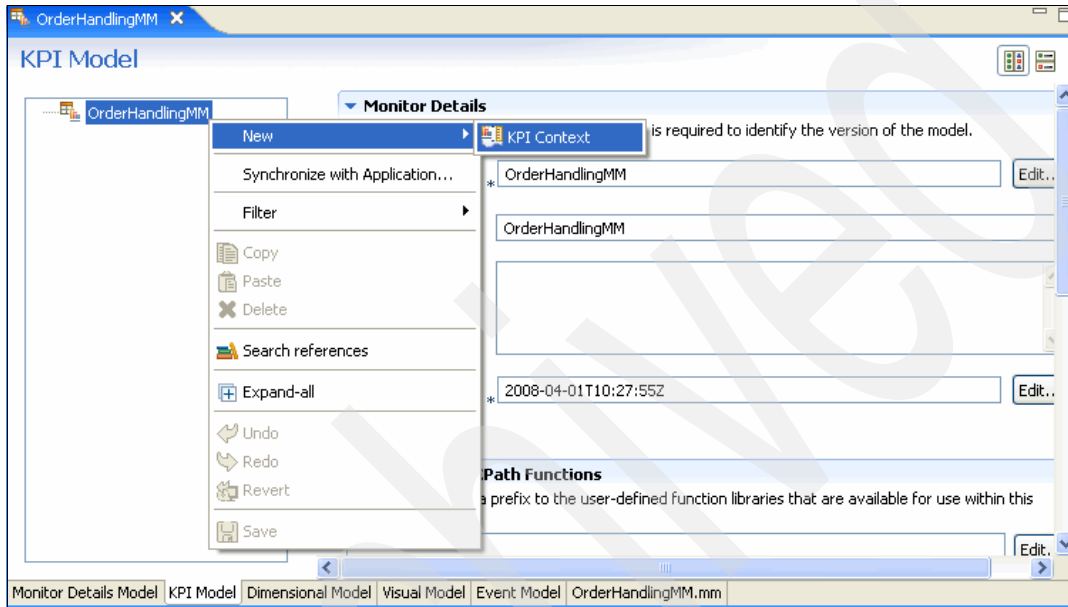

Figure 8-95 Adding a KPI context
2. In the KPI Model panel (Figure 8-95), right-click **OrderHandlingMM** and then click **New** → **KPI Context** to add a KPI context.